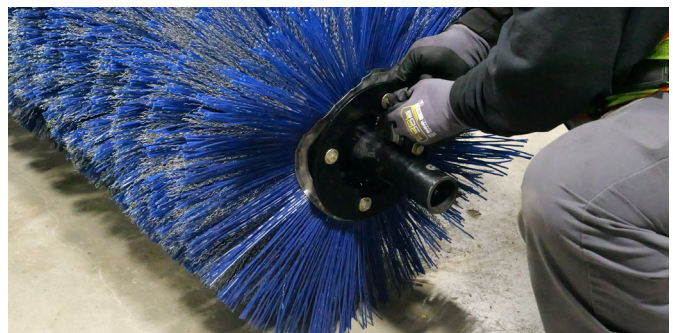

Figure 13
4. After installing the last wafer, reinstall the end retainer plate. Carefully lay the core on its side [Figure 13].